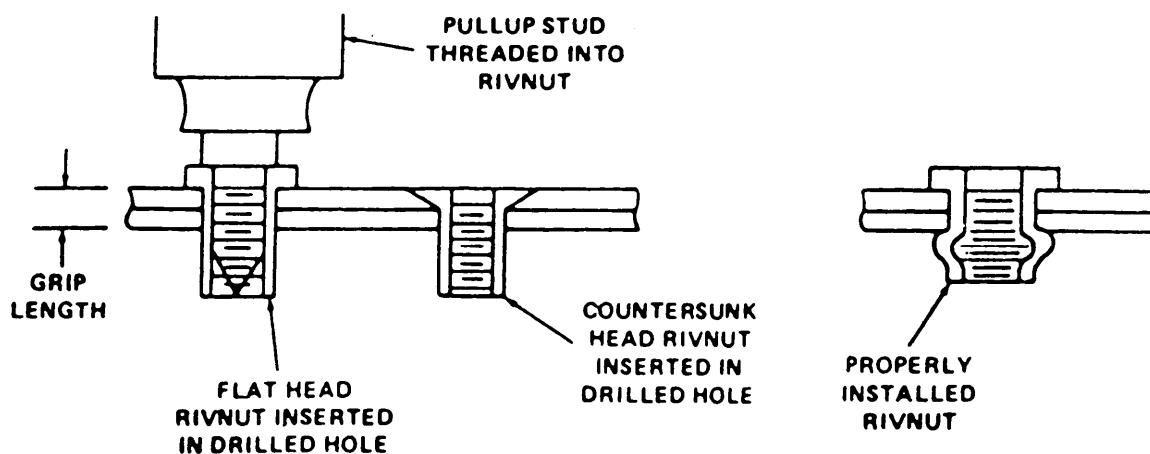

Figure 3-7. Installing Rivnuts.
*(1) Installation. (Figure 3-7)***NOTE**